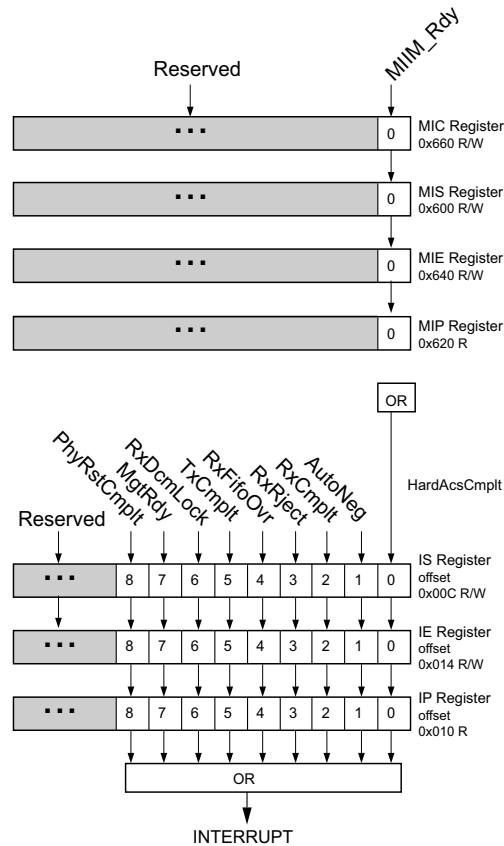

Figure 2-25: Subsystem Interrupt Structure
Whenever any bits are set in the Interrupt Pending register, the `interrupt` signal is driven active-High out of the AXI Ethernet Subsystem. Figure 2-25 shows the structure of the interrupt register.
2. See Figure 2-25 for conditions that cause the receive frame reject interrupt to occur. The receive frame reject interrupt occurs for any of the following reasons: